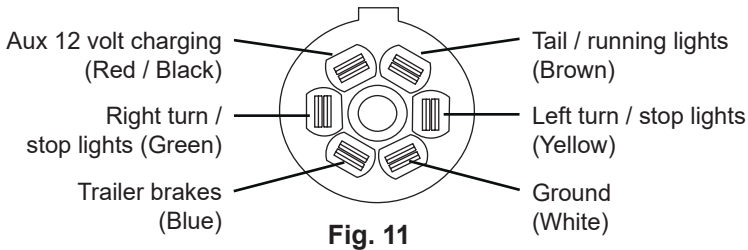

**Fig. 10**
6. If the spirit level bubble was toward the vehicle (Fig. 10), the coupler is set too low. If the bubble was toward the trailer, the coupler is set too high.